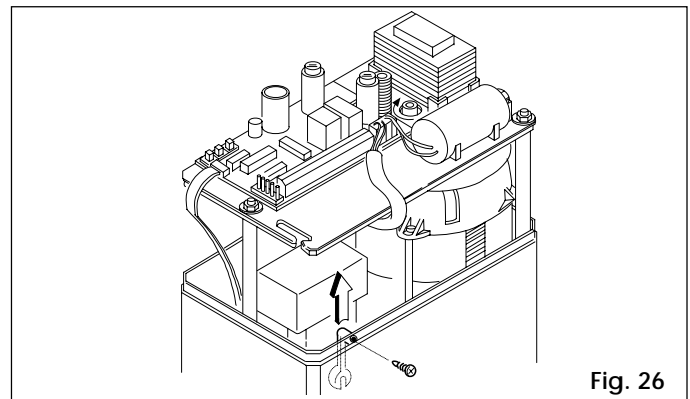

Fig. 26
- 5) Remove the safety tab as illustrated in Fig. 26 and keep it for future maintenance work.